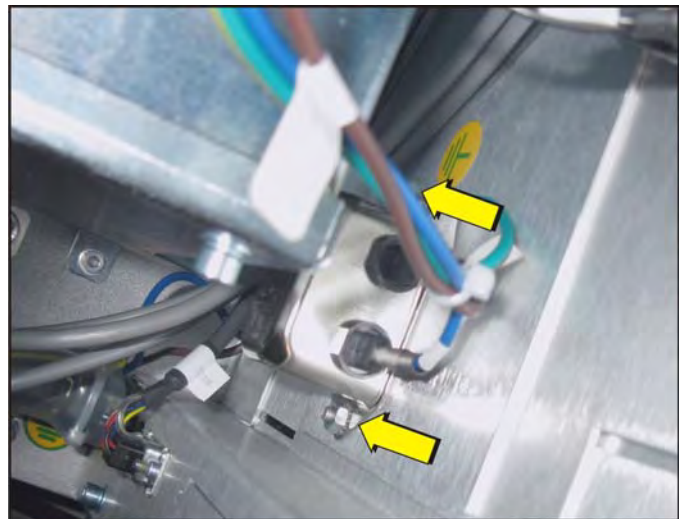

Figure 5-45 Remove AC Line Filter
5. Remove the two hex nuts from the bracket the AC line filter is secured to, which is secured to the firewall. (Figure 5-45)